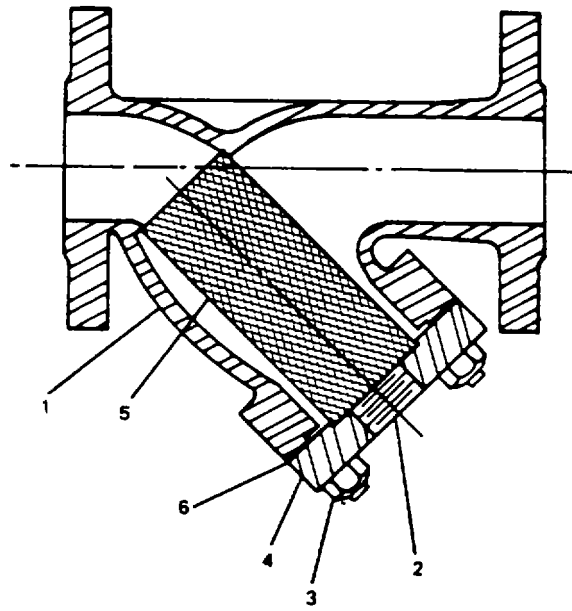

Figure 2-100. Repair Y-Strainer.
- a. Place utility pail under strainer (1, Figure 2-100) and remove drain plug (2).
- c. Remove nuts (3) from strainer.
- d. Remove cover plate (4).
- e. Remove strainer element (5).
- f. Remove gasket (6) and discard.